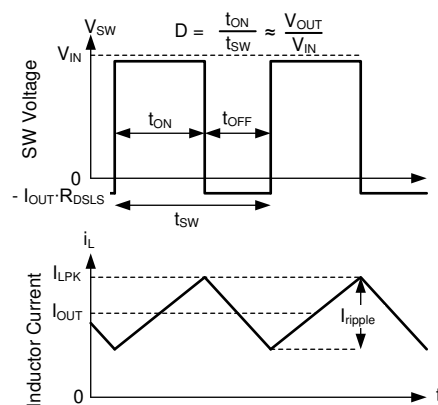

Figure 8-20. SW Voltage and Inductor Current Waveforms in Continuous Conduction Mode (CCM)
The following operating description of the LM6x4xx-Q1 refers to Section 8.2 and the waveforms in Figure 8-20. Both supply a regulated output voltage by turning on the internal high-side (HS) and low-side (LS) NMOS switches with varying duty cycle (D). During the HS switch on-time, the SW terminal voltage, V_{SW} , swings up to approximately V_{IN} , and the inductor current, i_L , increases with a linear slope. The HS switch is turned off by the control logic. During the HS switch off-time, t_{OFF} , the LS switch is turned on. Inductor current discharges through the LS switch, forcing V_{SW} to swing below ground by the voltage drop across the LS switch. The regulator loop adjusts the duty cycle to maintain a constant output voltage. D is defined by the on-time of the HS switch over the switching period: $D = T_{ON} / (T_{ON} + T_{OFF})$.